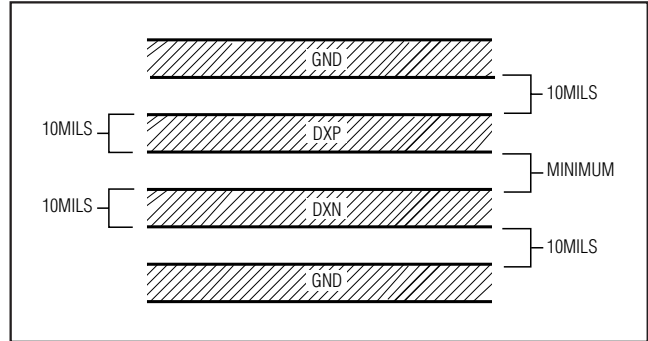

Figure 4. Recommended DXP-DXN PC Traces
- 3) Route the DXP and DXN traces in parallel and in close proximity to each other, away from any higher voltage traces, such as 12V DC. Leakage currents from PCB contamination must be dealt with carefully since a 20M Ω leakage path from DXP to ground causes about 1°C error. If high-voltage traces are unavoidable, connect guard traces to GND on either side of the DXP-DXN traces (Figure 4).
- 6) Use wide traces. Narrow traces are more inductive and tend to pick up radiated noise. The 10mil widths and spacing recommended in Figure 4 are not absolutely necessary, as they offer only a minor improvement in leakage and noise over narrow traces. Use wider traces when practical.